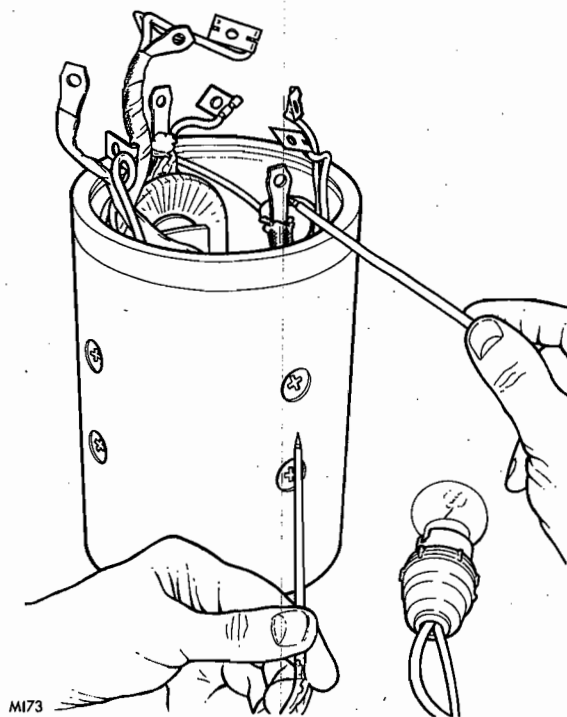

FIG. 3. CHECKING THE FIELD WINDINGS FOR SHORT CIRCUITS
3. Using test probes connected to a supply (not exceeding 110V) and in series with a 15W bulb, check the field coils for short circuits to the yoke and poles (see Fig. 3). Illumination of the bulb indicates defective insulation.
- a. Remove the screws (14) and withdraw the poles and coils, noting the position of the coils to facilitate assembly. Each pole has a 'step' machined on its surface and is marked with a number which corresponds with a number stamped on the end of the yoke. When refitting the poles, the 'steps' must all be positioned towards the commutator-end of the yoke and all the numbers must correspond.
- b. Fit new coils to the poles and insert into the yoke. Fit the screws (14).
- c. Apply 'Duralac' sealing compound to the pole screws (14). The screws should be tightened firmly to exclude any clearance between the mating surfaces of the poles and the yoke.